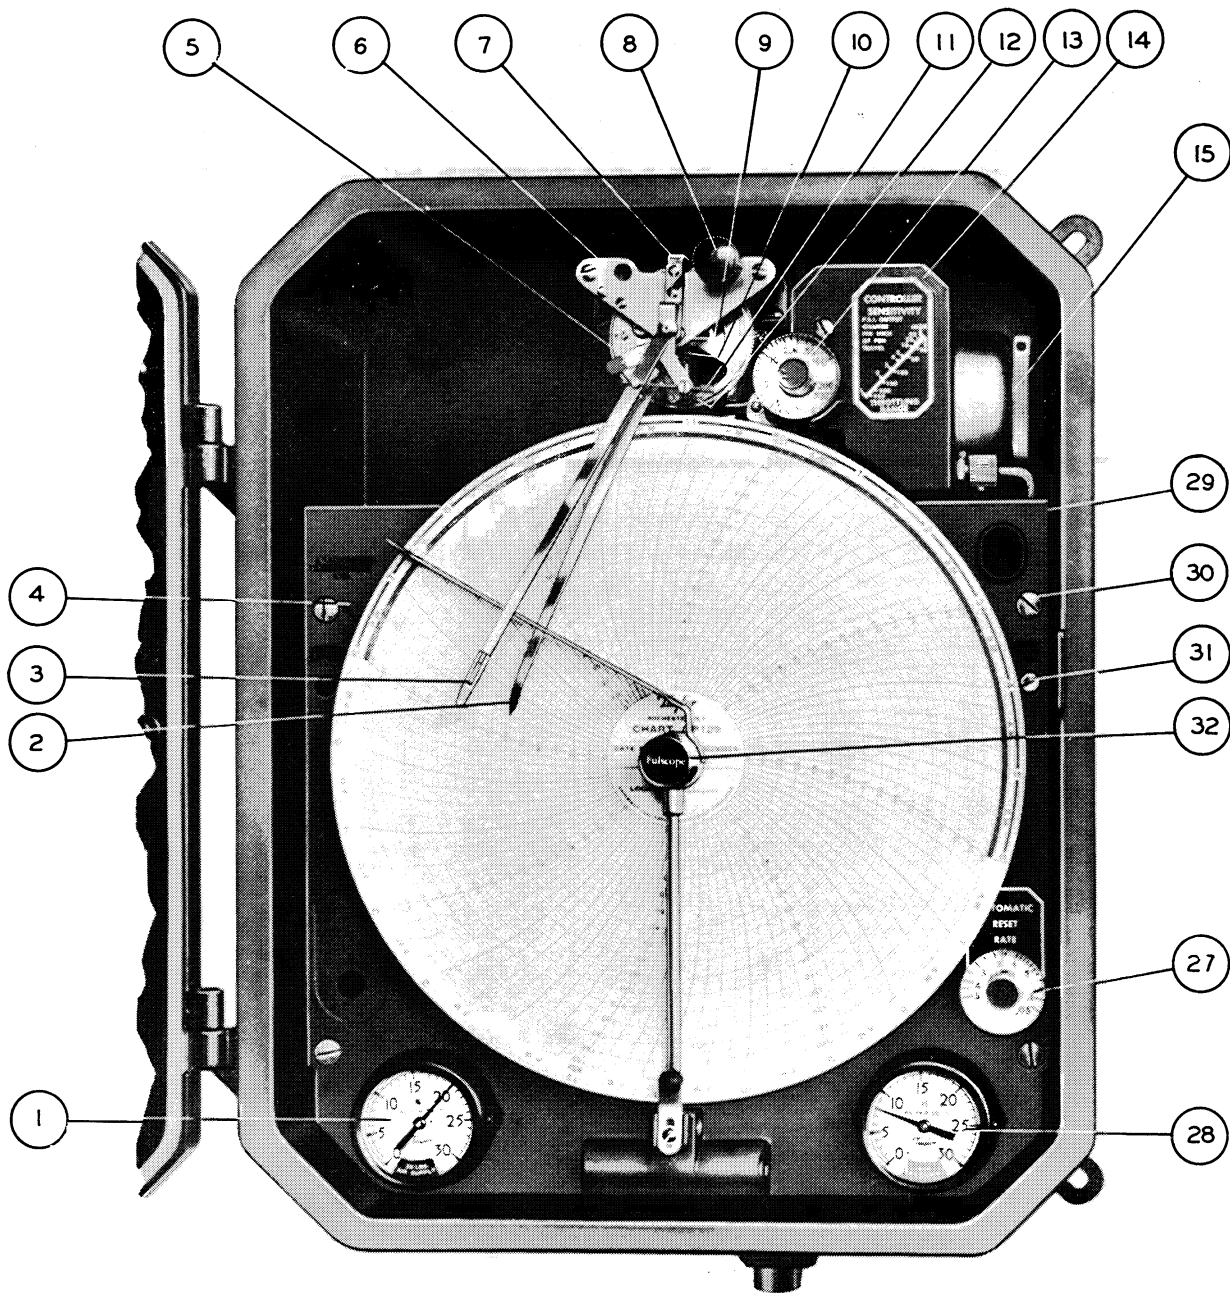

Fig. 1
PROCESS START UP (See Fig. 1 and 2)
To replace the chart, pull knob (32) forward, the pen and pointer are thus lifted from the chart facilitating chart removal. See Fig. 1. Place a fresh chart on the clock hub and rotate it until the correct time line is opposite the reference arc (4). Push Knob back into position.